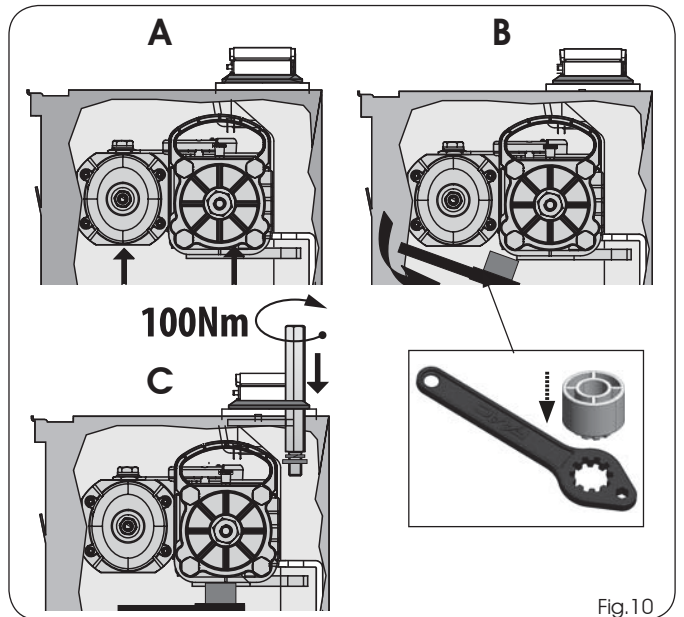
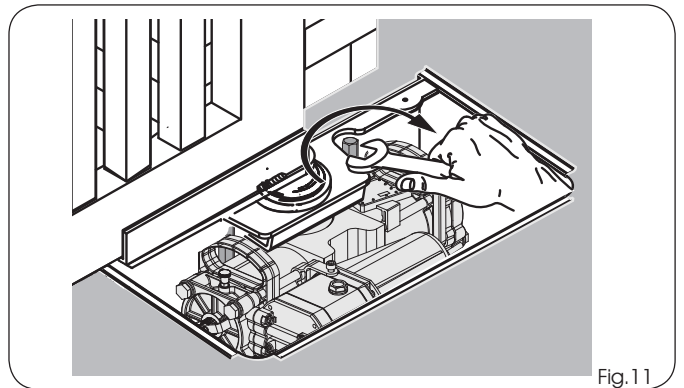

Fig.10
Fig.11
- 10) Lift the operator using the specific panels (Fig.10 ref.A), and insert the pinion in the splined bush of the support box. To facilitate the operation, turn the operator until they couple.
- 11) Position the supplied key beneath the operator as shown in figure 10 ref. B to support the engine.
- 12) Insert and screw the fixing screws with the groove as shown in figure 10 ref. C, to secure the operator to the support box, as in figure 11.